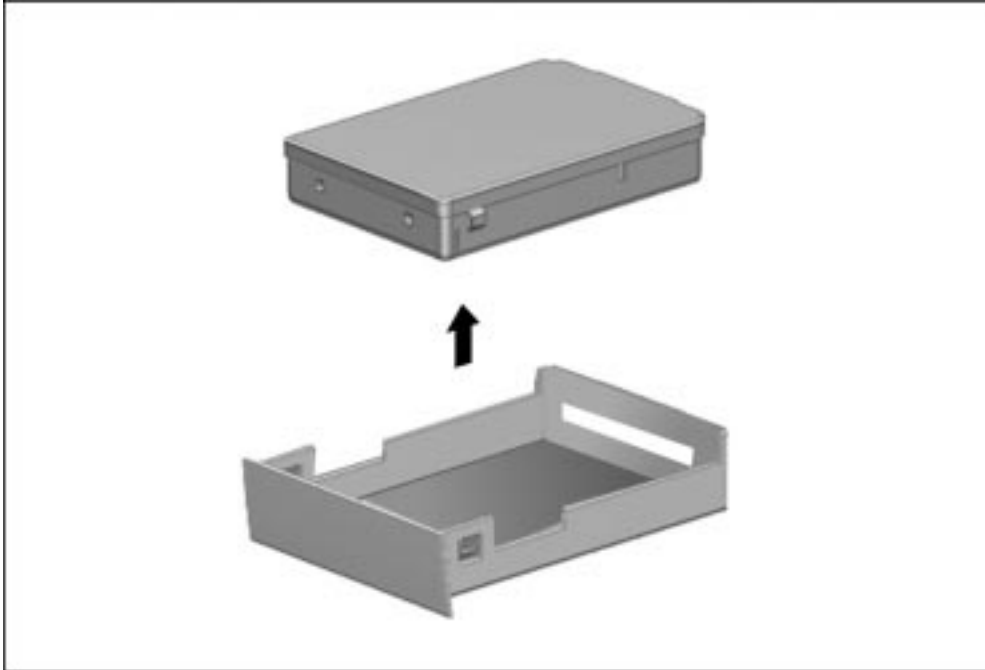

Figure 5-16. Removing the Hard Drive from the Hard Drive Tray
7. Pull the metal hard drive up and out of the plastic hard drive tray (Figure 5-16).